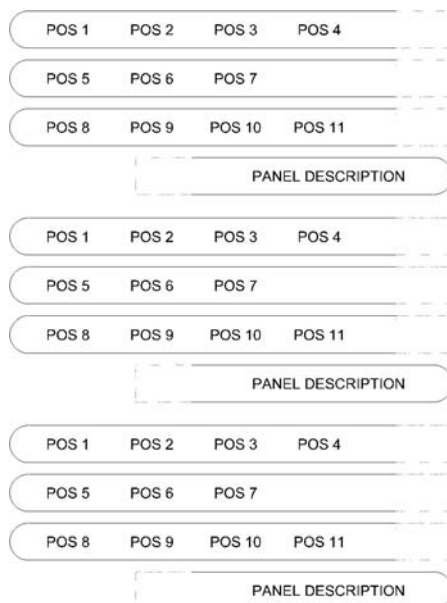
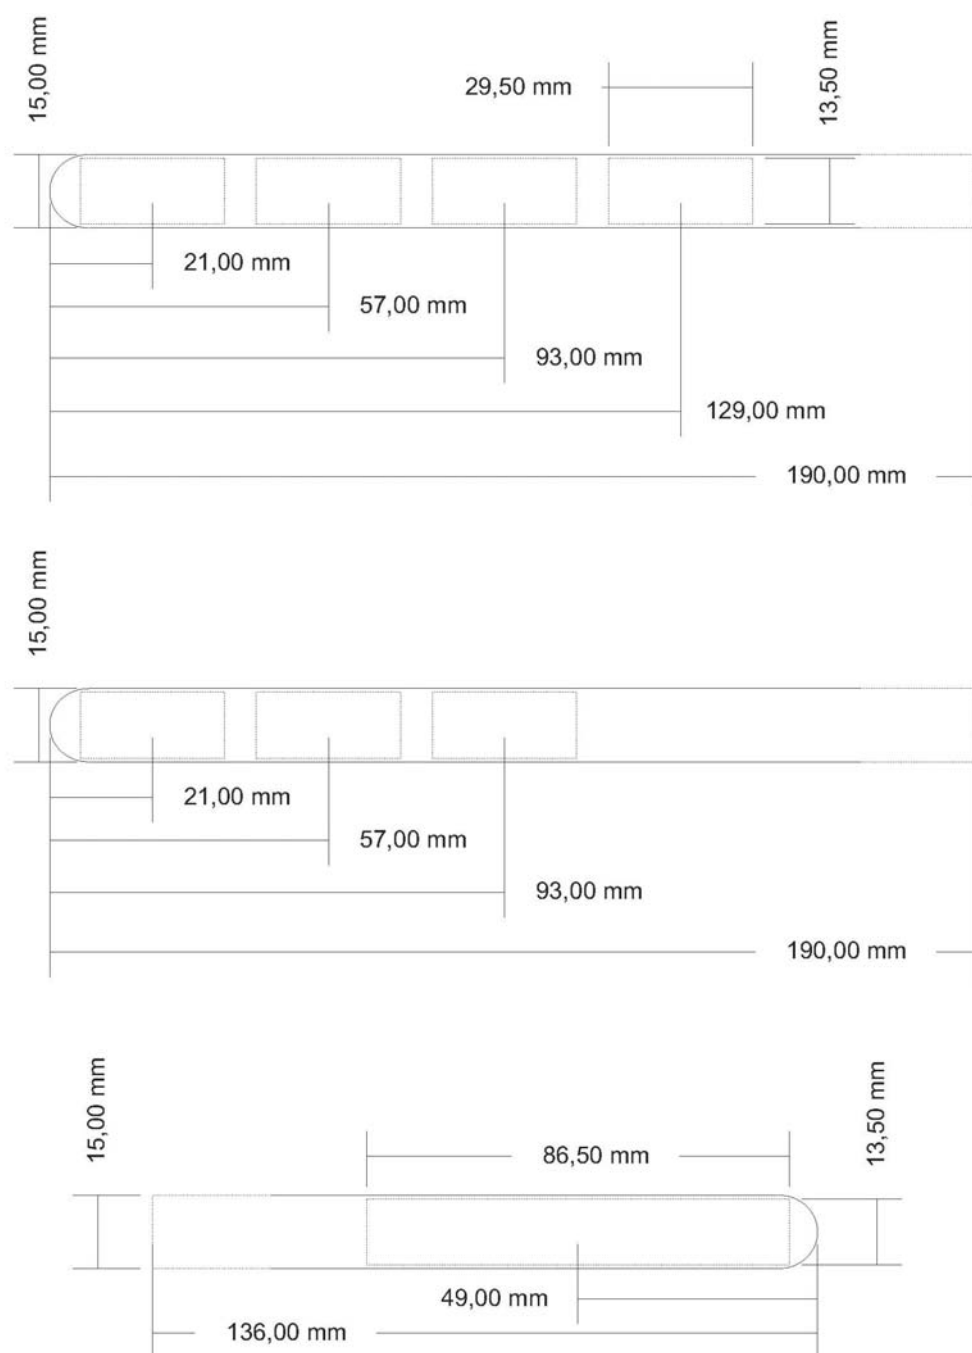

Figure 40: Text template layout
Figure 42: Text field dimensions
1. Type suitable text in the positions on the template (Figure 40 and Figure 42).